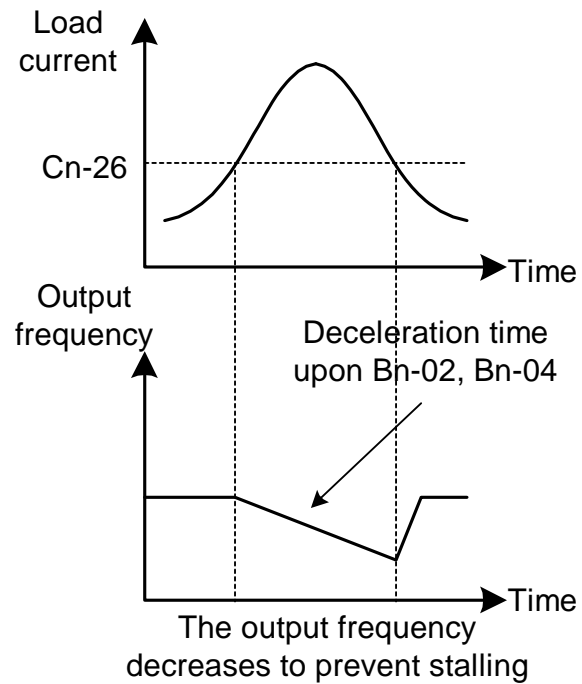

Fig. 23 Run stall prevention function
- Stall Prevention During running : See Fig.23. Deceleration is started if the run stall prevention level Cn-26 is exceeded, especially when an impact load is applied suddenly. Accelerate again when the current level is lower than Cn-26.